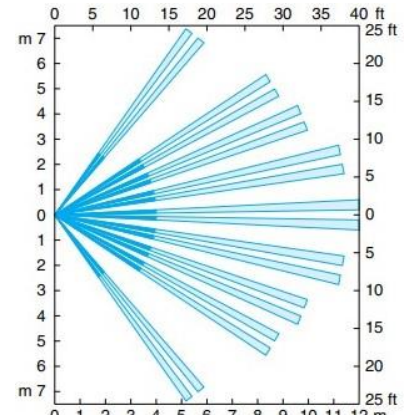

Figure 3
4. To adjust the sensor angle, adjust the sensor side to side angle for optimum field of view (see Figure 3 for viewing angles).